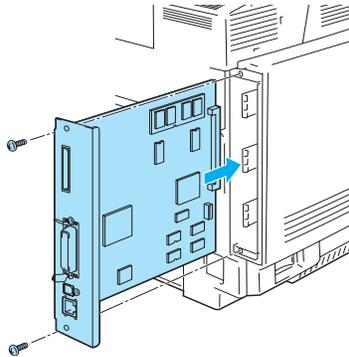

**Figure 4-23**
- 4 Press **Set** to print the list of optional fonts (Figure 4-23).